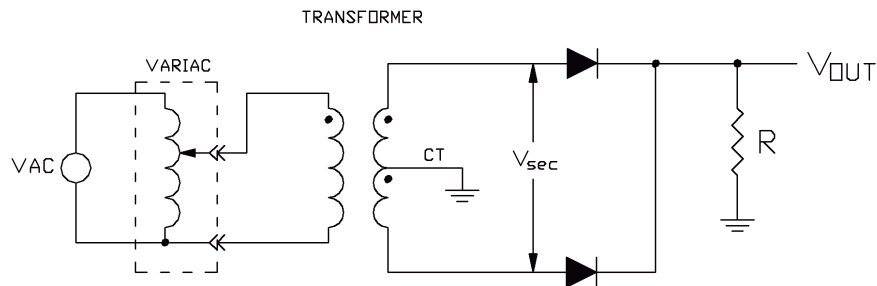

Figure 11
- Build a “full wave” unfiltered DC rectifier using your transformer, diodes and resistor as shown in Figure 11. The “full wave” rectifier only requires the addition of one diode to the “half wave” rectifier circuit.